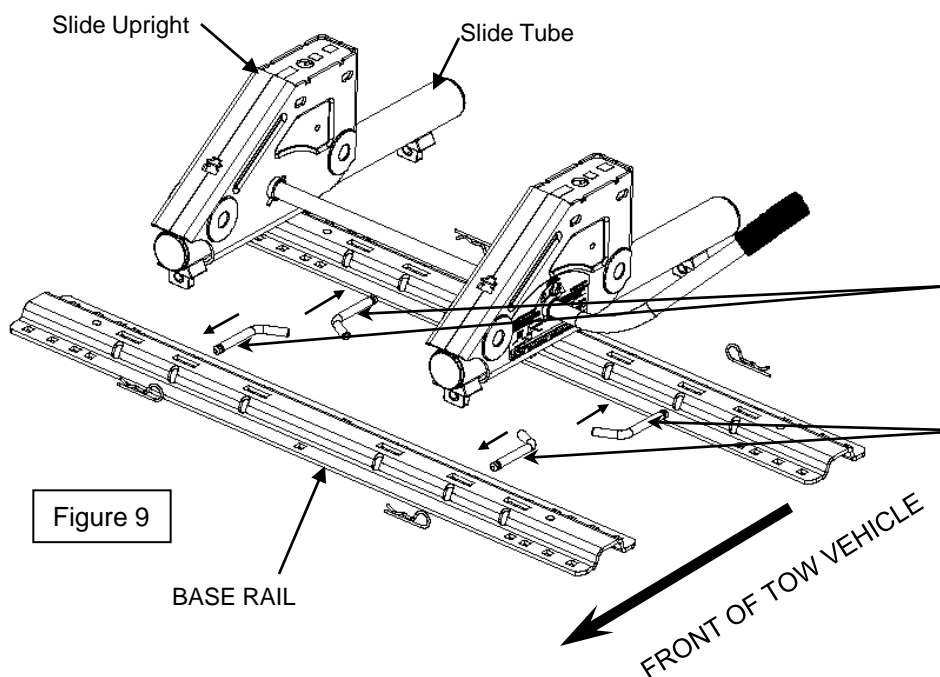

Figure 9
4. Set the REESE™ FIFTH Wheel Slider into base rails and pin in position as shown in Figure 9 below.